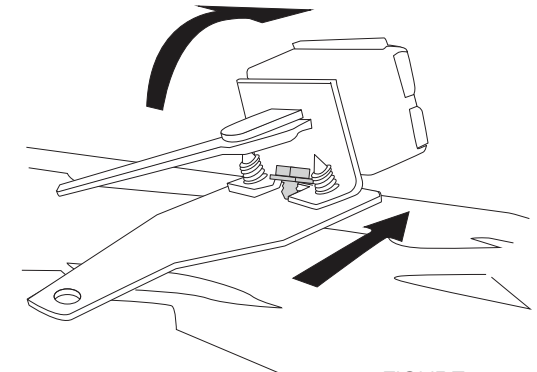

FIGURE 7
2) It will be necessary to position, then rotate the blower switch assembly and slide over the screw that will be under the switch. This screw will need to be tightened with a wrench (see figure 7 and 8).